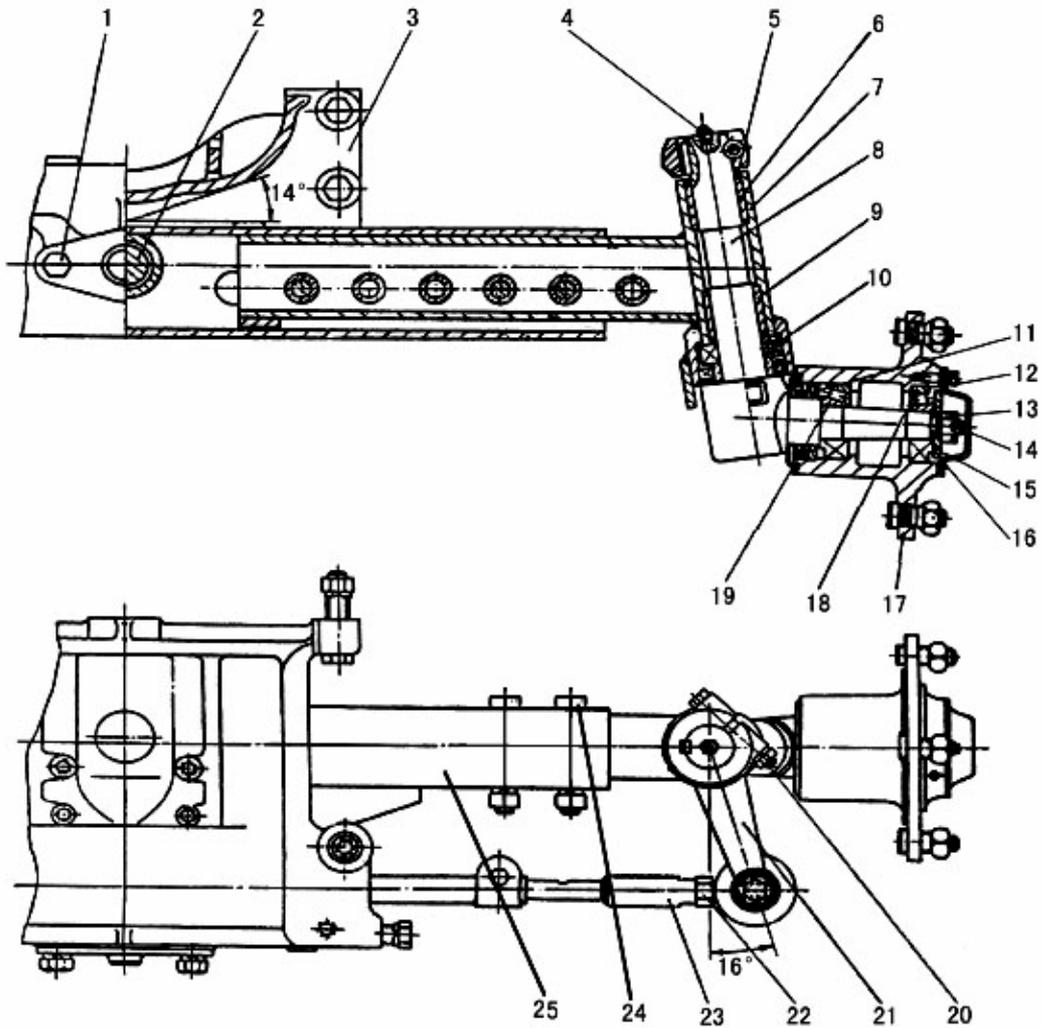

Fig.6-13 2WD fore axle assembly
##### (1) Structure (See Fig. 6-13):